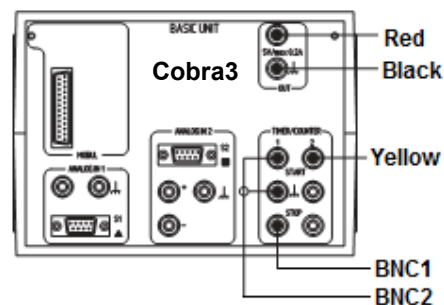

Figure 3: Connection of the movement recorder to the Cobra3 unit
- Connect the **Movement recorder** to the Cobra3 unit according to Figure 3.